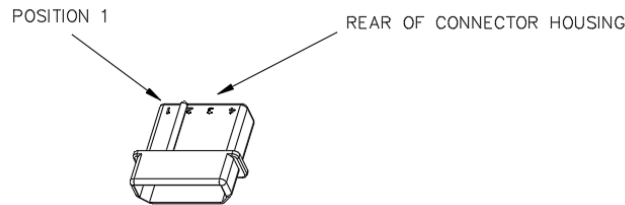

Figure 1 : Mate-N-Lok pin numbering
11. Typical Mate-N-Lok pin numbering is shown in Figure 1. Refer TE Connectivity Mate-N-Lok AMP Connectors datasheets for additional information on use.